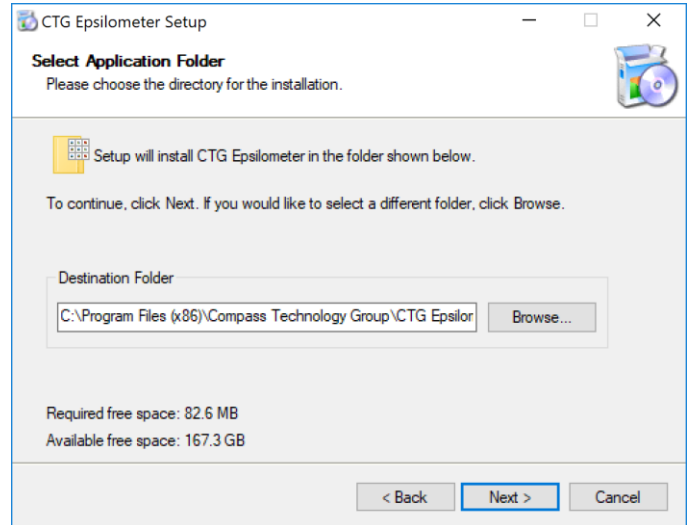

Figure 3. Selecting Destination Folder
4. Click “**Next**”. Select a folder destination for CTGEpsilon software to be installed on computer and click “**Next**” button (**Figure 3**).